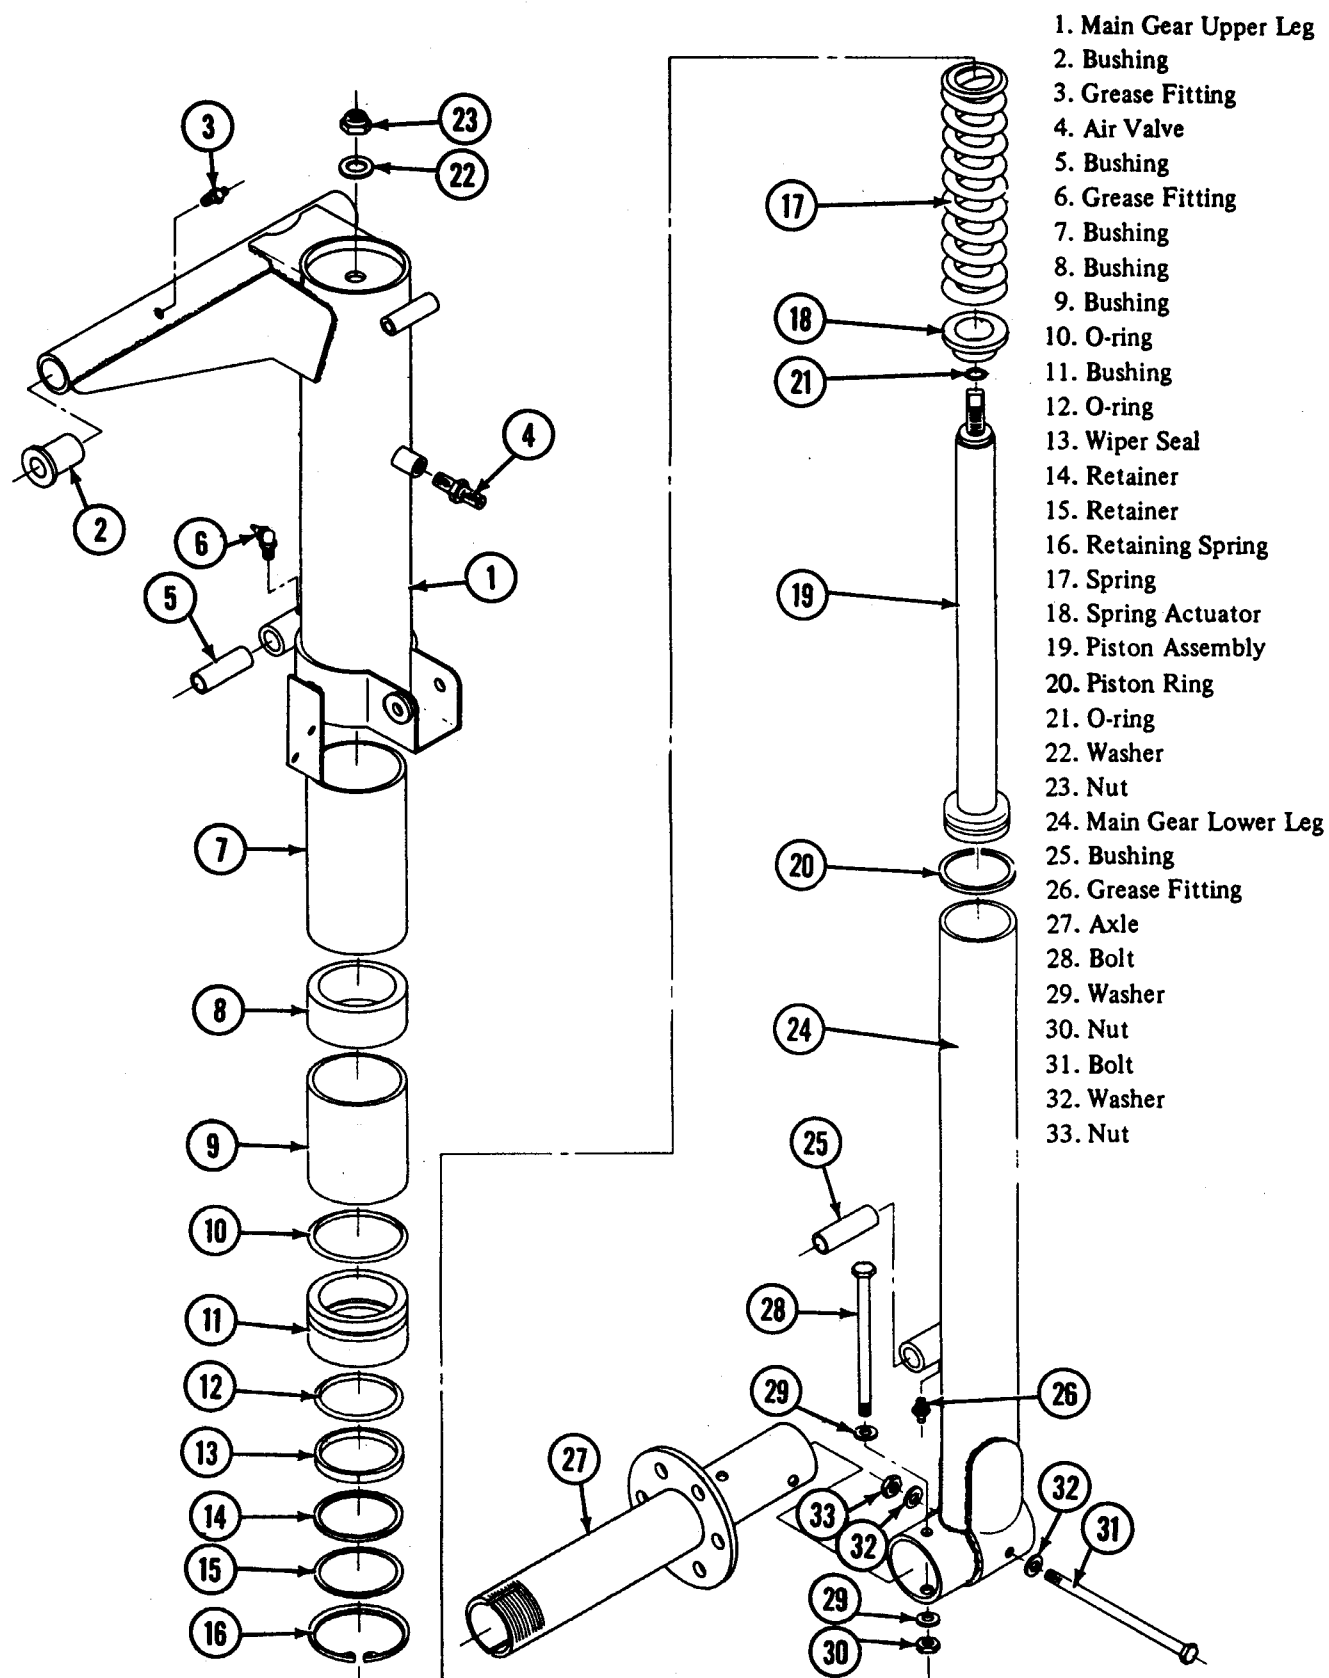

Figure 7-22. Main Gear Shock Strut.
7-24. REPLACING FLUID AND SEALS, MAIN GEAR SHOCKS STRUT (see Figure 7-22).
- (8) Remove the nut and washer on top of the upper strut assembly and remove the piston, spring, and spring actuator. If the upper leg bushings (8 and 11, Figure 7-22) need removal they must be pulled out as they are press fit.
- (9) Do not remove the piston ring from the piston unless replacement is necessary.
- (1) If parts inside the upper strut assembly were removed, use a new O-ring and reinstall the parts by reversing disassembly procedures.
- (2) Install new O-rings on the bushing.
- (3) Lubricate the O-rings, bushing, and wiper seal with the same type hydraulic fluid that will be used in the strut (see Table 7-1).
- (4) Use a new wiper seal, and assemble the retaining ring, retainers, wiper seal, and bushing into the upper strut assembly in the order shown in Figure 7-22. Position the retaining ring in the groove near the bottom of the upper strut assembly. Ensure that the retaining ring is seated firmly in the groove.
- (5) Fill the lower strut assembly with the amount and type of hydraulic fluid indicated in Table 7-1, and insert the lower strut assembly into the upper strut assembly.
- (6) Reconnect the lower end of the scissors and static cable.
- (7) Reconnect the brake line.
- (8) Refer to Table 7-1 for the specified air pressure and pressurize the strut.
- (9) Bleed the brake system.